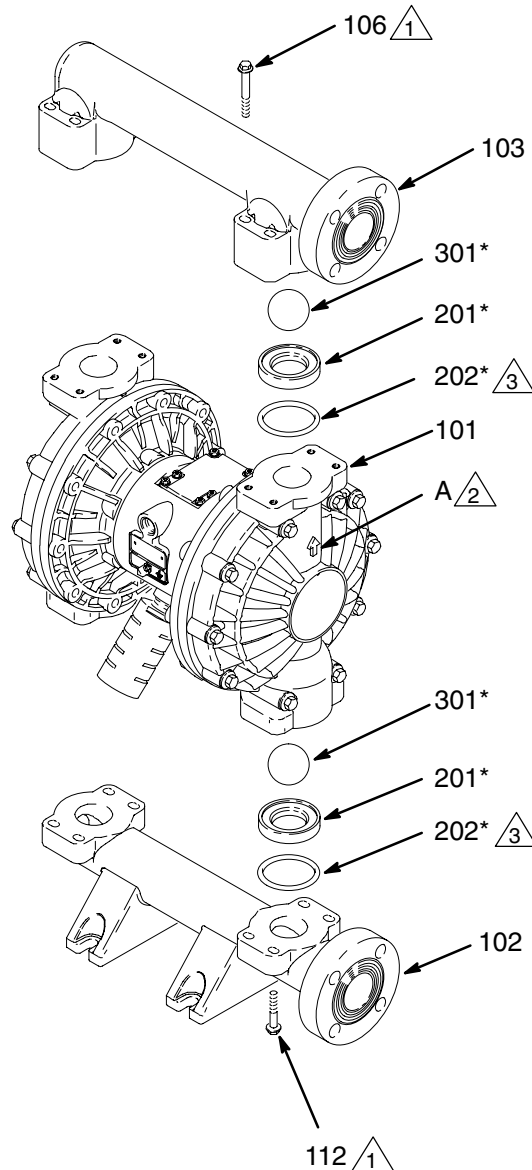

Fig. 11
3. Using a 10 mm socket wrench, remove the eight bolts (106) holding the outlet manifold (103) to the fluid covers (101). See Fig. 11.
4. Remove the seats (201), balls (301), and o-rings (202) from the manifold.
2. Reassemble in the reverse order, following all notes in Fig. 11. Be sure the ball checks are assembled **exactly** as shown. The arrows (A) on the fluid covers (101) **must** point toward the outlet manifold (103).
- ⚠₂ Arrow (A) must point toward outlet manifold (103).